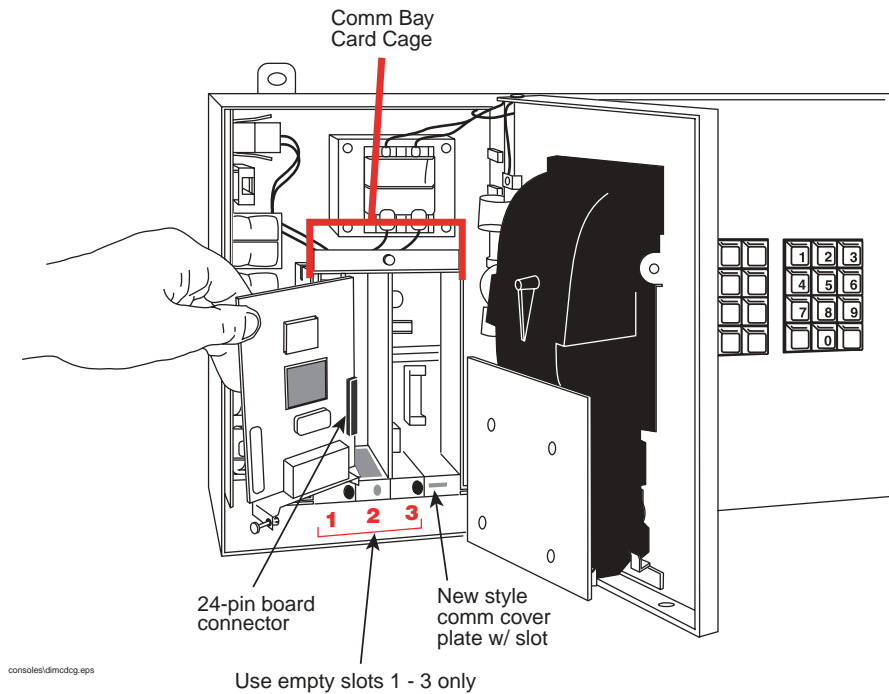

Figure 5. TLS-350 Series Gasboy Interface Module Installation
| Figure 5. | TLS-350 Series Gasboy Interface Module Installation | 8 |
3. Remove the blank cover plate from an open slot in the communication compartment. Important Note: The Gasboy Interface Module can only be installed in slots 1, 2, or 3 of the console's Comm Bay card cage (Figure 5).
If your console has "knockout" cover plates, open the printer door and insert a flat blade screw driver in the slot provided in the front of the cover plate you are removing and twist it to break the front set of metal securing tabs (Figure 5). Once the front tabs are broken, carefully rock the loosened end of the plate until the rear set of securing tabs break. Remove and discard the cover plate.